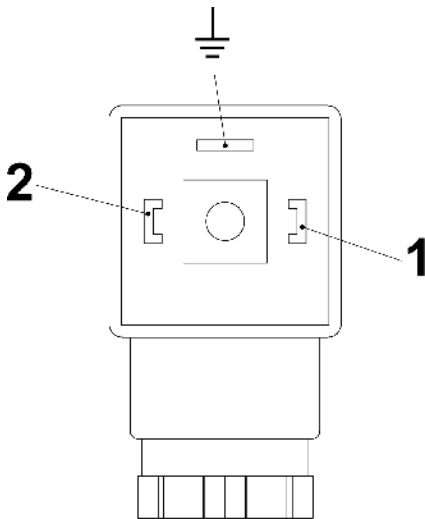
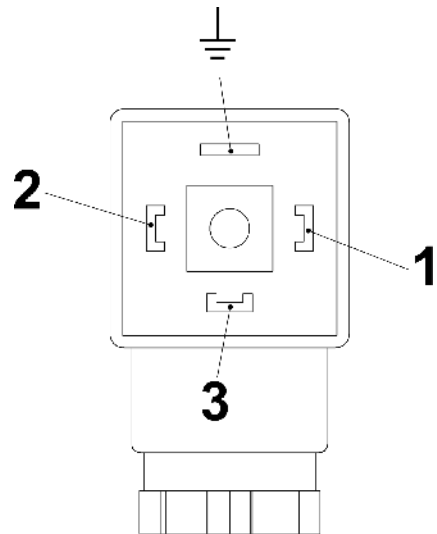

Fig. 24: Pin assignment, plug socket, normally-open contact (Form 30x70)
Fig. 25: Pin assignment, plug socket, change-over contact (Form 30x70)
6. ➤ Make the connections as shown in the connection diagrams (Fig. 25 and Fig. 24)